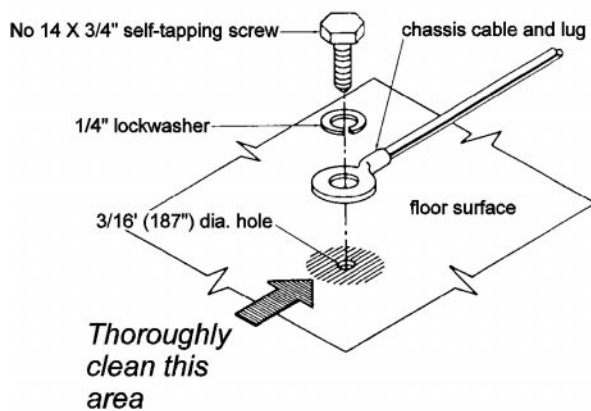

Figure 9: Wire Attachment to Chassis
1. It is recommended to attach the black (ground) wire to the vehicle's chassis. The point of attachment should be located as close as possible to the radio. Refer to Figure 9.